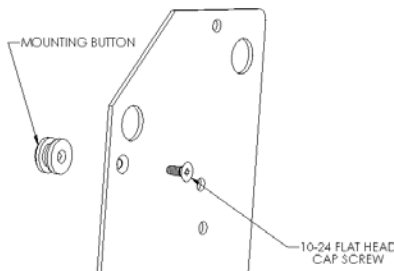

Figure 2
1. Using a 10-24 flat head cap screw inserted from chamfered hole side of bracket, secure mounting button, with chamfered hole of mounting button (larger surface) facing bracket, to bracket (four places) (see Figure 2).